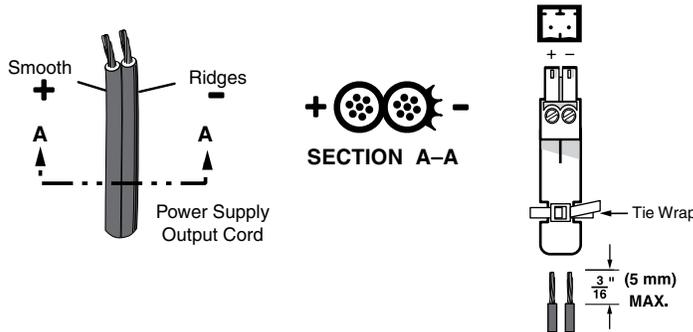

Figure 6. Power Connector Wiring
Figure 6 shows how to wire the connector. Use the supplied tie-wrap to strap the power cord to the extended tail of the connector.
- Power supply voltage polarity is critical. Incorrect voltage polarity can damage the power supply and the unit. The ridges on the side of the cord (see figure 6 on page 9) identify the power cord negative lead.